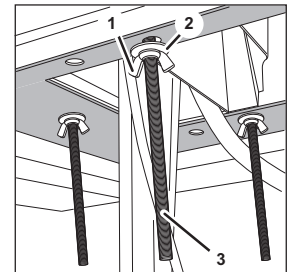

Fig. 7
6. Attach the unit to the supporting structure using threaded bolts (Fig. 7/3), wing nuts (Fig. 7/1) or nuts and washers (Fig. 7/2), and tighten the wing nuts or nuts evenly. Check that the unit is properly attached. After attachment, the unit must not tilt or overturn.